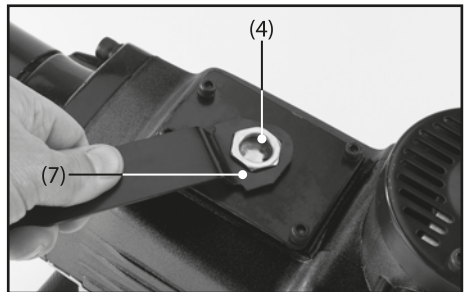

FIG.5
- FIGS. 5 & 6
Remove sight glass window (4) with the supplied spanner (7), making sure not to damage or lose the gasket, Fig.5.